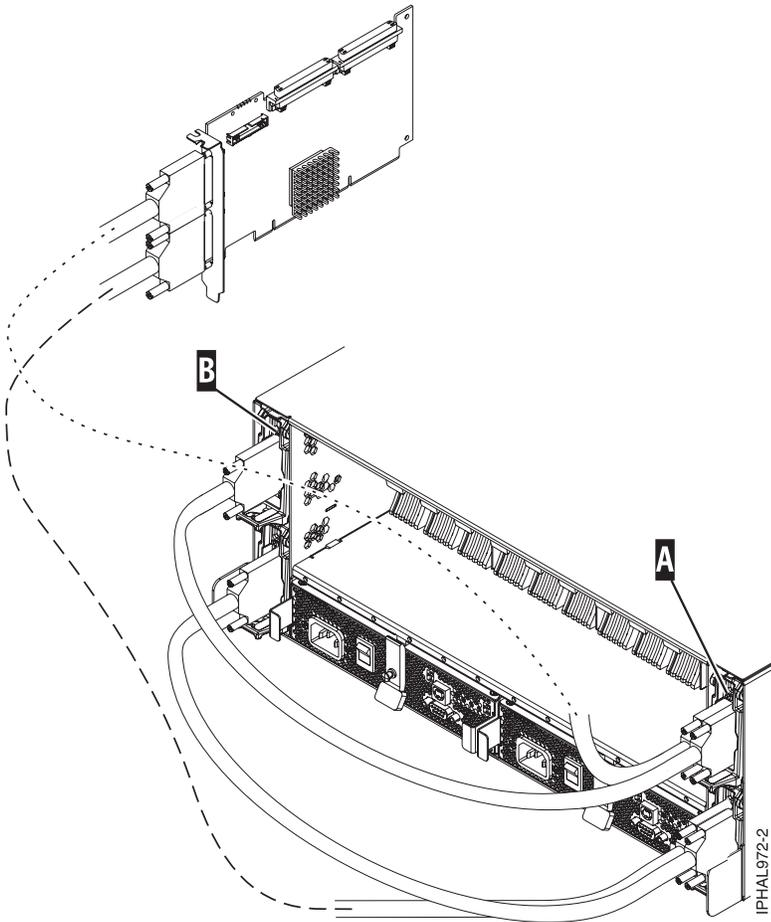

Figure 71. SCSI cable to dual repeater card connected to single repeater card
- If you are using a combination of single and dual repeater cards, install a SCSI cable to the dual initiator repeater card **A**. Then, connect the dual repeater card **A** to the single repeater card **B** with a different SCSI cable. For more information, see Figure 71 on page 70.